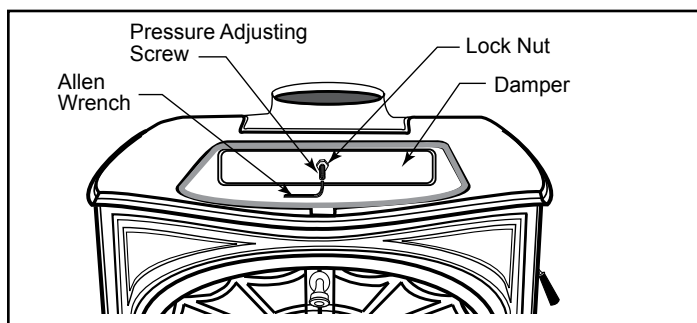

Fig. 43 - Adjust the damper with the Allen wrench.
1. Remove the griddle. Loosen the lock nut at the center of the damper. (Fig. 43)